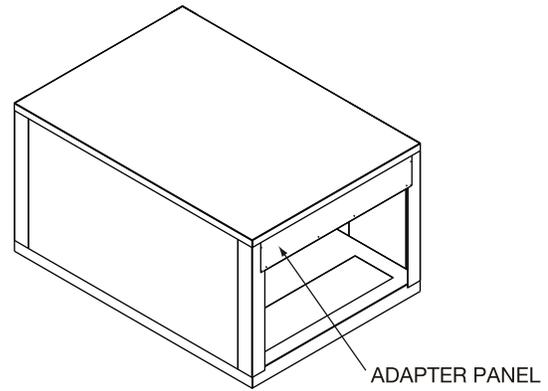

Fig. 45 — Secure Adapter Panel to Unit
6. Locate the adapter panel (provided if necessary). Position the adapter panel at the top of the return air access panel under the rooftop unit top panel. Secure the adapter panel to the rooftop unit using the supplied no. 10-16 x 1/2 screws as shown in Fig. 45.